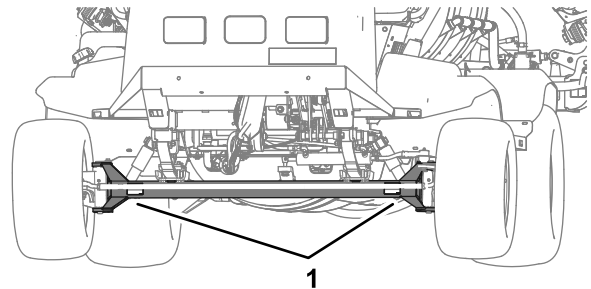
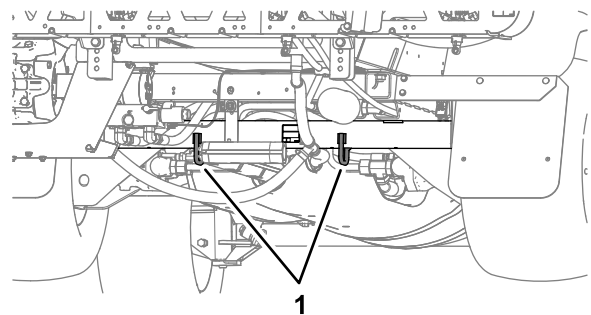

Figure 90
Figure 91
- Bind the machine securely to the transport vehicle; Figure 90 and Figure 91 illustrate the tie-down points of the machine.